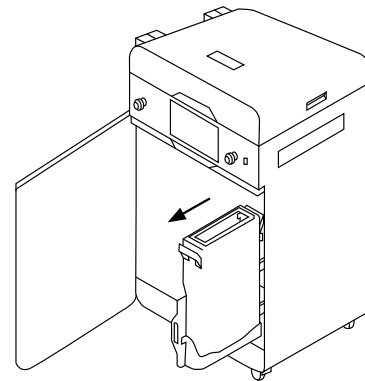

Fig. 10.8 Sliding out the Overflow Bin.
- 19. Slide out the Overflow Bin (fig. 10.8).